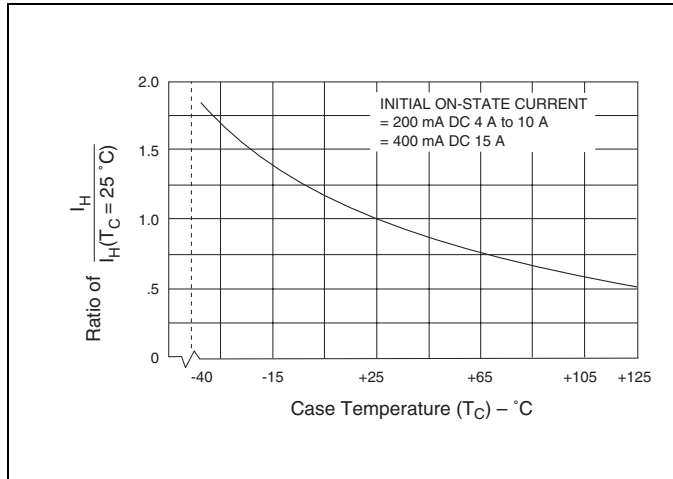

Figure E3.1 Normalized DC Holding Current versus Case Temperature
- See Figure E3.1 for I_H versus T_C .